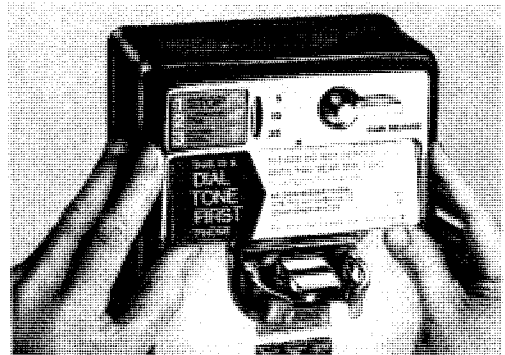

Fig. 20—Installing Instruction Cards in 1-Type Set (Typical)
- (1) Loosen card locking setscrew (if provided) in faceplate using a No. 4 (.050) Allen wrench. Turn counterclockwise to loosen.
- (2) Push up with fingers (Fig. 20).
- (3) Snap card in place.
- (4) Ensure that card is seated properly in slot.